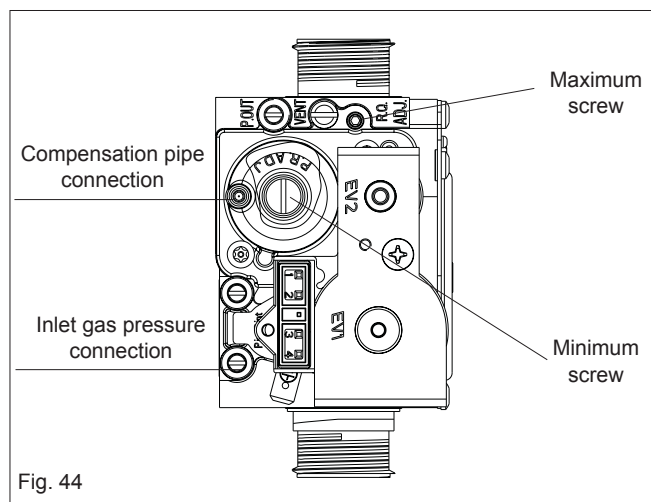

Fig. 44
- using a 2.5mm Allen key, very slowly turn the maximum adjustment screw (see fig. 44) – clockwise to decrease, counter clockwise to increase – until the correct value is displayed on the CO₂ analyser (allow time for the analyser to stabilise).
- locate the minimum adjustment screw (fig. 44), using a suitable screwdriver remove the protection plug
- using a 4mm Allen key, very slowly turn the minimum adjustment screw (see fig. 44) - clockwise to increase, counter clockwise to decrease - until the correct value is displayed on the CO₂ analyser (allow time for the analyser to stabilise).